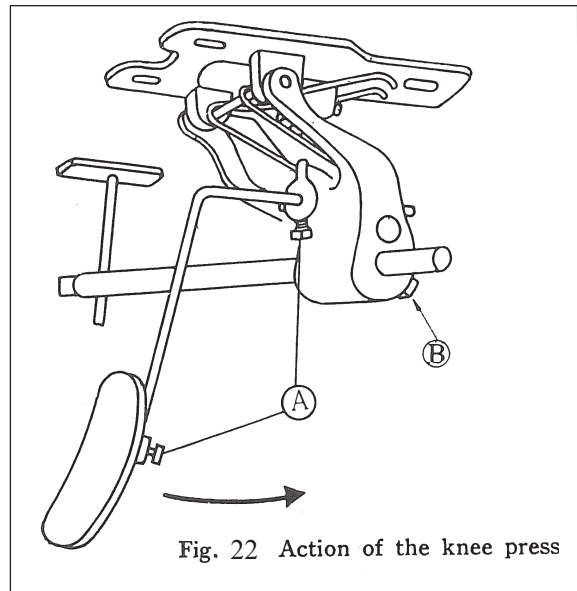

Fig. 22 Action of the knee press
The zigzag width of throw of this embroidering machine can be regulated by the knee press as shown in Fig. 22. From your sitting position, make certain that the knee press smoothly contacts the tip of your right knee (Fig. 23).
If your knee is not correctly contacting the knee lifter, adjust it by loosening the screw (A) Fig. 22.